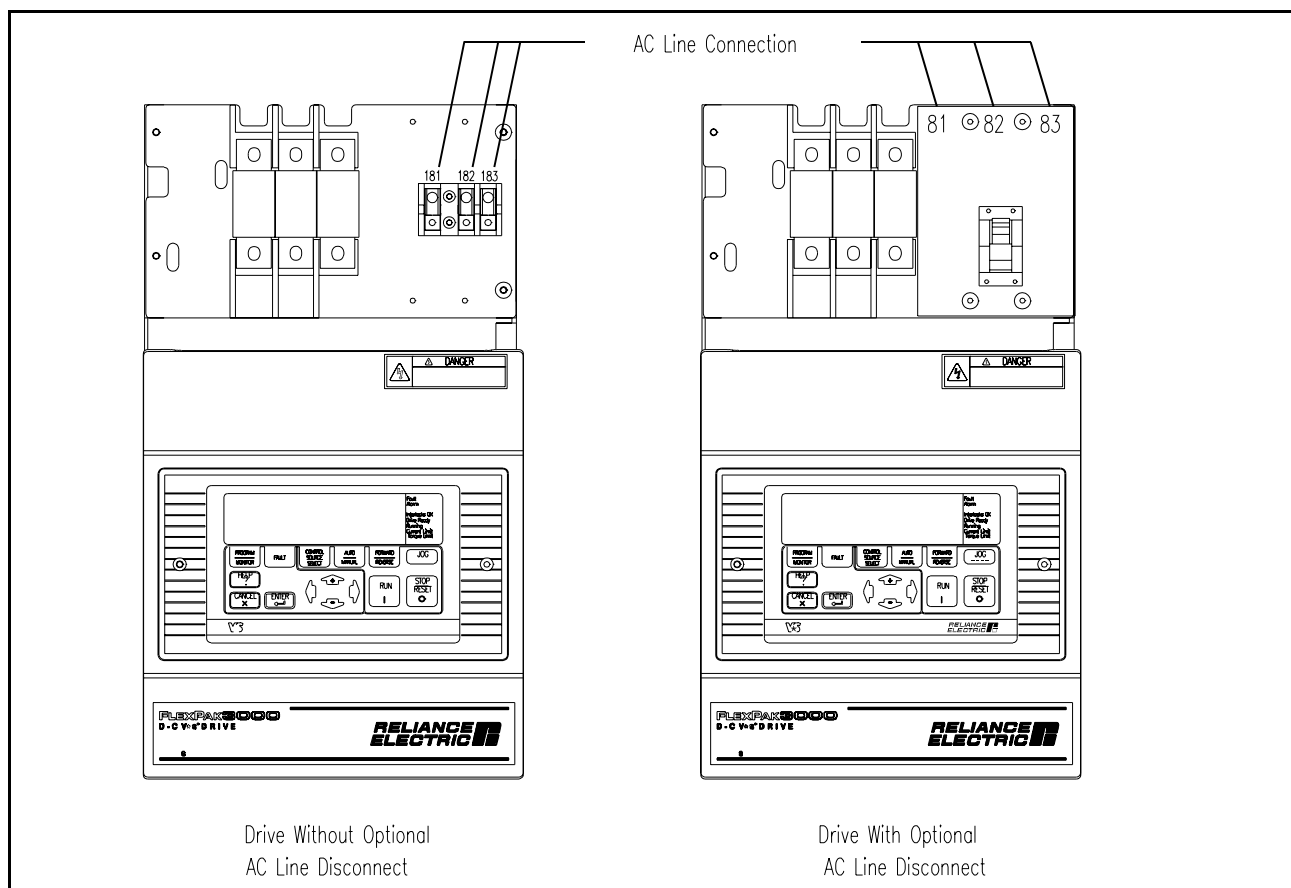

Figure 2.14 – AC Line Connection Location (1.5 to 30 HP @ 230 VAC 3 to 60 HP @ 460 VAC / 7-110 Amp Rated Output)
- Step 2. Connect the AC line supply to the termination points located at the right top of the drive or to the disconnect. See figures 2.14 through 2.17.